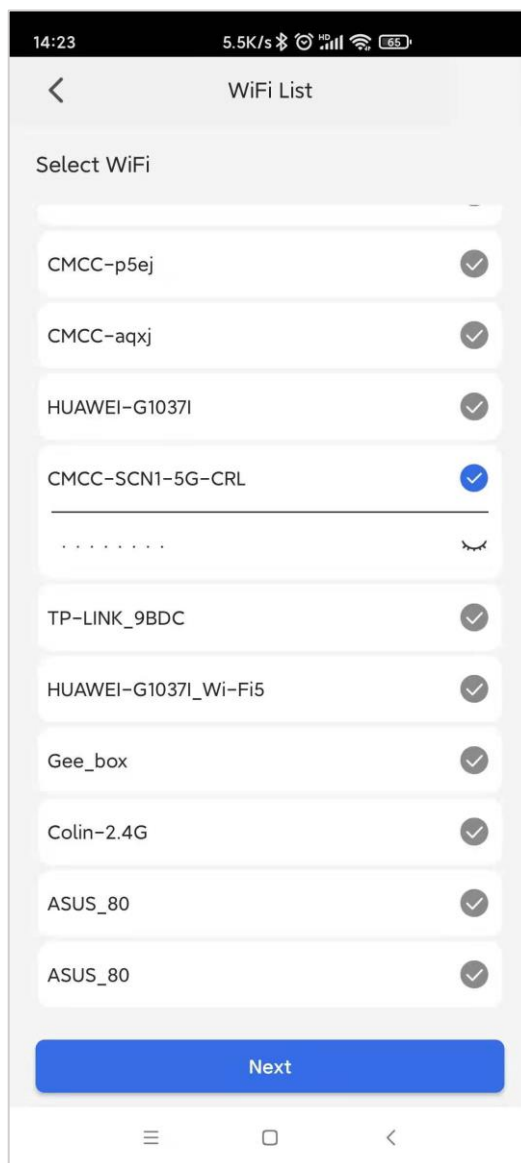

Figure 14: the Wi-Fi List Interface
All SSIDs of nearby Wi-Fi Access Point (AP) will be listed after scanning. User can choose Wi-Fi SSID, and then input Wi-Fi password. Click “Next” button and the APP will transmit Wi-Fi configuration parameters to devices by BLE showing in figure 14.